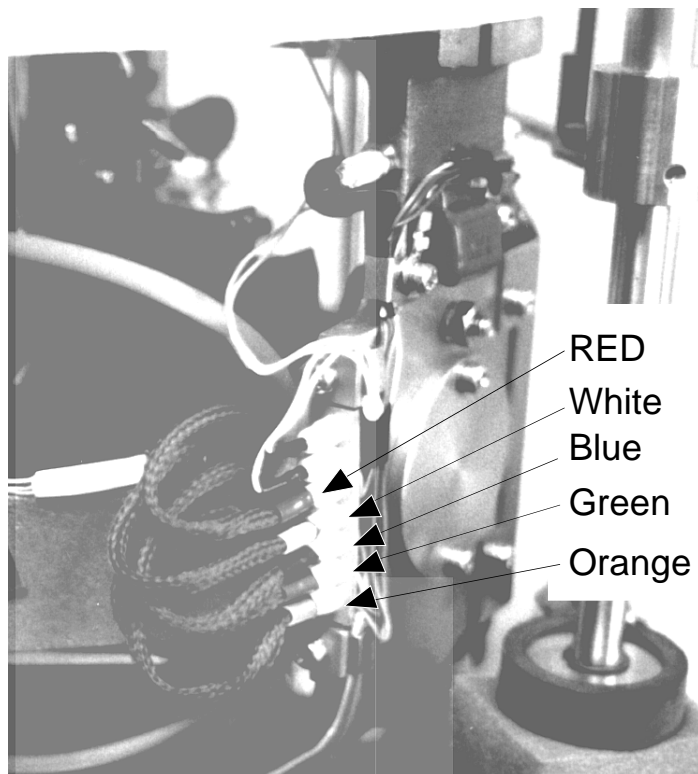

Figure 4-1 Flexible wire placement
33. Carefully insert the correct wires into the appropriate color terminals as shown in Figure 4-1. Note that it may be necessary to use a small pliers to grab the white plastic part of the flexible wire connector for inserting the pin into the receptacle. (Be careful not to mix up the white and the orange color bands!)